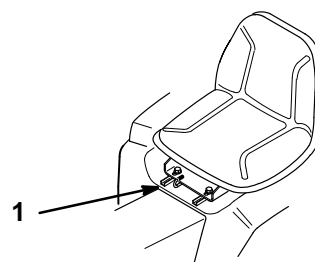

Figure 22
1. To adjust, move the lever sideways to unlock seat (Fig. 22).